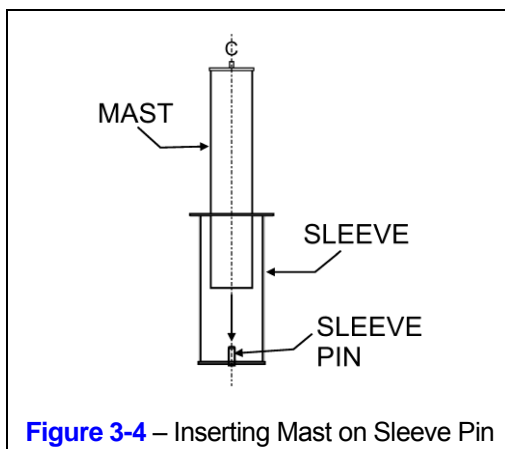

Figure 3-4 – Inserting Mast on Sleeve Pin
- 9) Insert MAST into SLEEVE and allow the bottom hole of MAST to slide over SLEEVE PIN (see Figure 3-4)